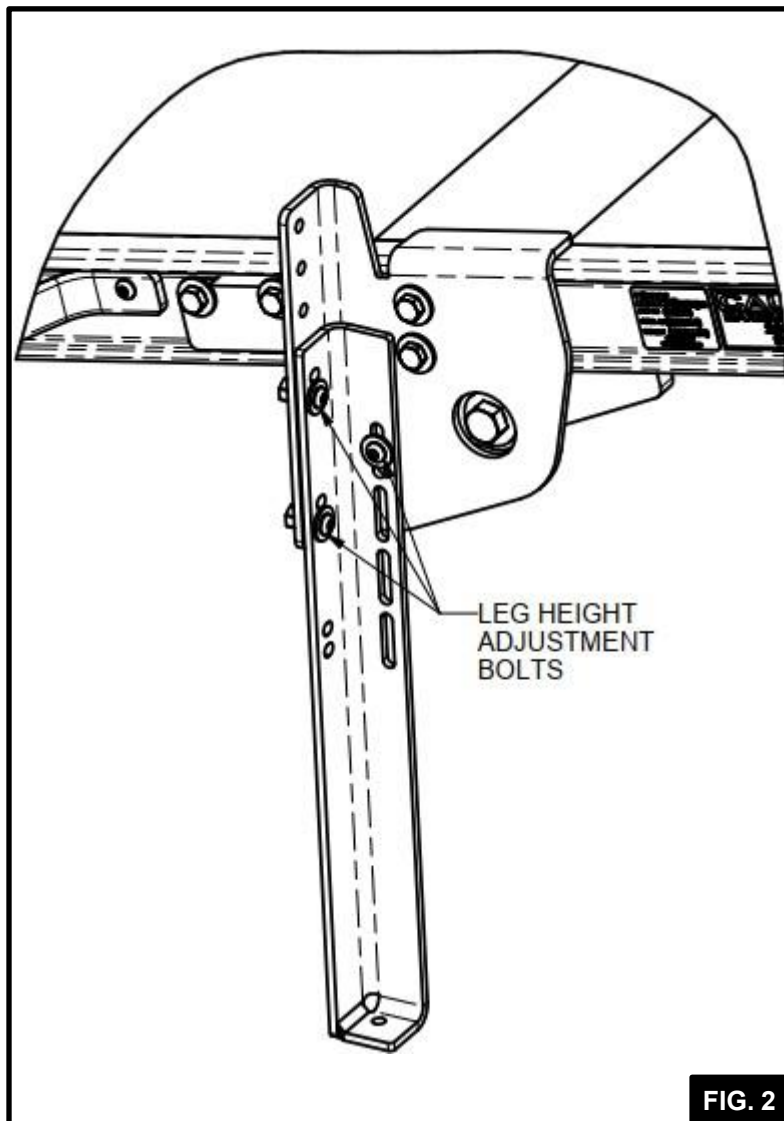

FIG. 2
3. Remove the (3) 1/4" bolts holding the leg to the leg mount (See Fig. 2). Repeat on the opposite side of the ramp.
5. Raise the leg to the closest mount hole and reattach it to the leg mount using the (3) 1/4" bolts.